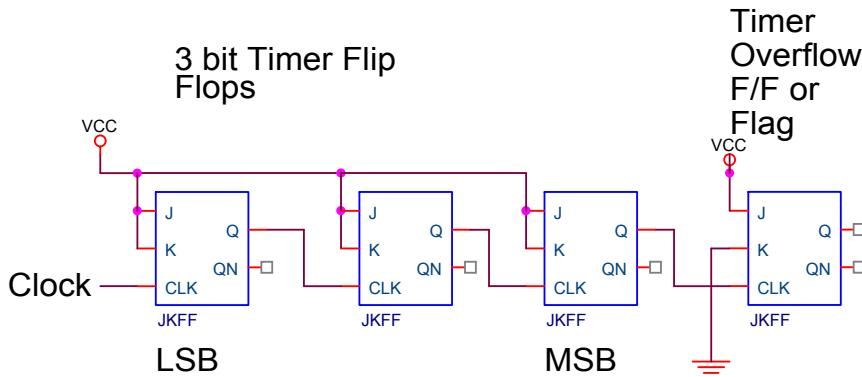
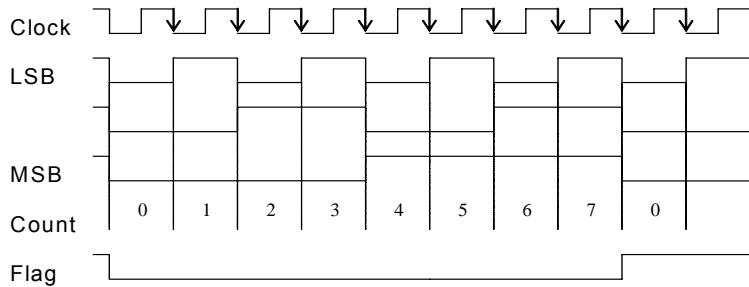

Figure 8.1 Schematic of a 3-Bit Timer
Figure 8.2 Timing Diagram
A timer/counter consists of a series of divide-by-two flip-flops (FF). Each FF is clocked by the Q output of the previous FF, as shown in Figure 8.1. Each stage, starting from the LSB F/F to the MSB F/F, generates an output signal which is half the frequency of its own clock input. Thus a 3-bit timer in Figure 8.1 will divide the input clock frequency by 8 ( $2^3$ ). Normally a timer/counter has added features like producing an interrupt at the end of a count. By adding the timer overflow F/F to the counter, it will aid to generate such an interrupt signal. Figure 8.1 shows that the output of the last stage (MSB) clocks a timer overflow flag. The counter will count from 000b to 111b and set the overflow flag on the transition from 111b to 000b. The timing diagram is shown in Figure 8.2.